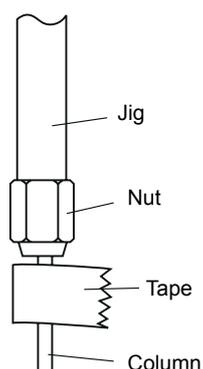

Figure 2.8 Marking the Column with Tape
- (3) Mark the capillary column beneath the tightened nut with tape as shown in Figure 2.8 "Marking the Column with Tape".
- (4) Remove the capillary column from the jig without moving the tape, and wipe the capillary column with acetone. Insert the column into the injection port and secure it by hand tightening the nut. If the ferrule is new, use the wrench to turn the nut an additional full turn. If the ferrule has been previously used, use the wrench to tighten the nut by turning it 20 to 40 degrees.
- (5) Remove the tape used to mark the column.
- (4) Remove the capillary column from the jig without moving the tape, and wipe the capillary column with acetone. Insert the column into the MS interface and secure it by hand tightening the nut. If the ferrule is new, use the wrench to turn the nut an additional full turn. If the ferrule has been previously used, use the wrench to tighten the nut by turning it 20 to 40 degrees.